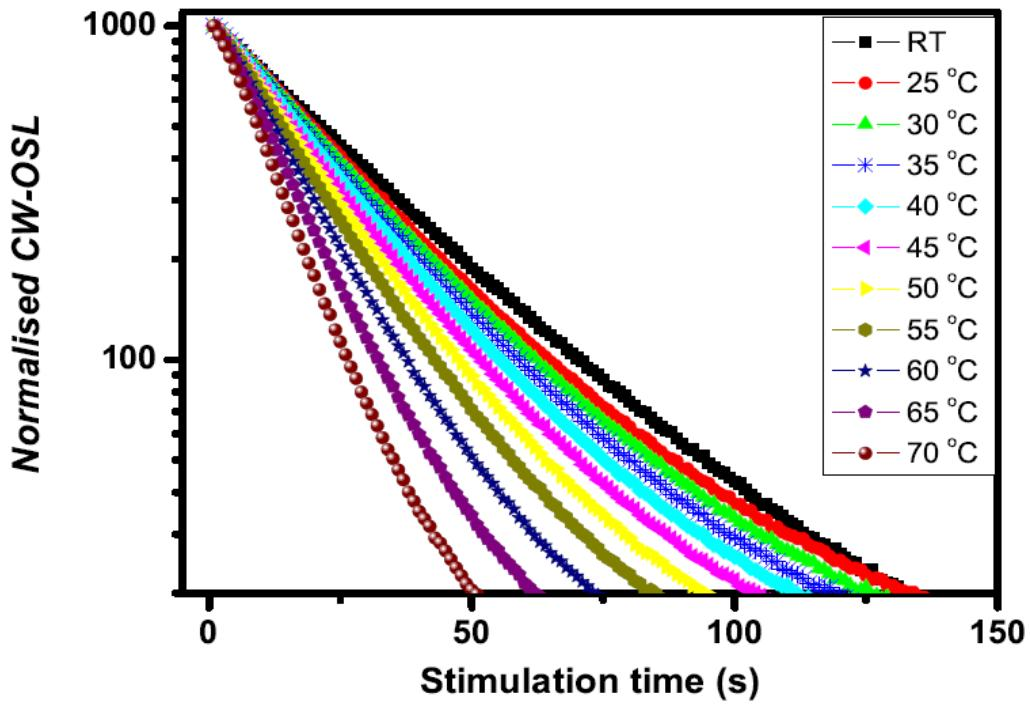

Fig. 2: CW-OSL for various stimulation temperatures.
2. Check the dependence on the stimulation temperature by plotting a figure similar to Fig 2.